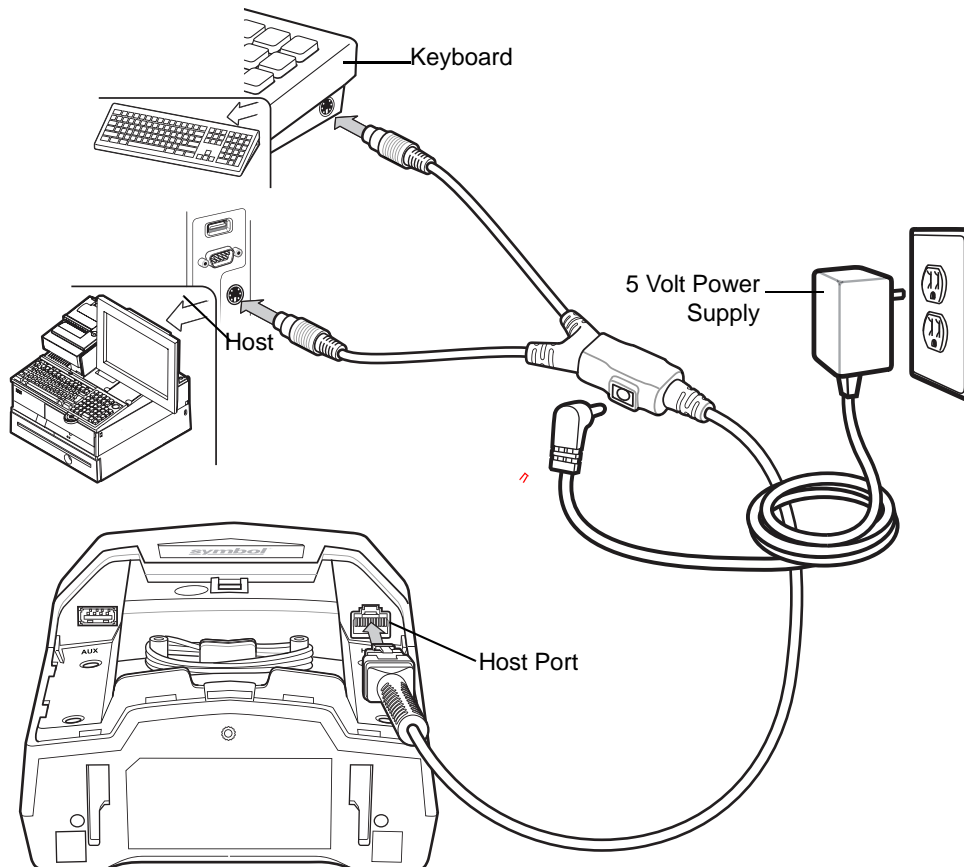

Figure 10-1 Keyboard Wedge Connection - 5 Volt Power Supplied Externally
- The DS7708 connects directly to the host computer and keyboard using the keyboard wedge Y-cable (see Figure 10-1).